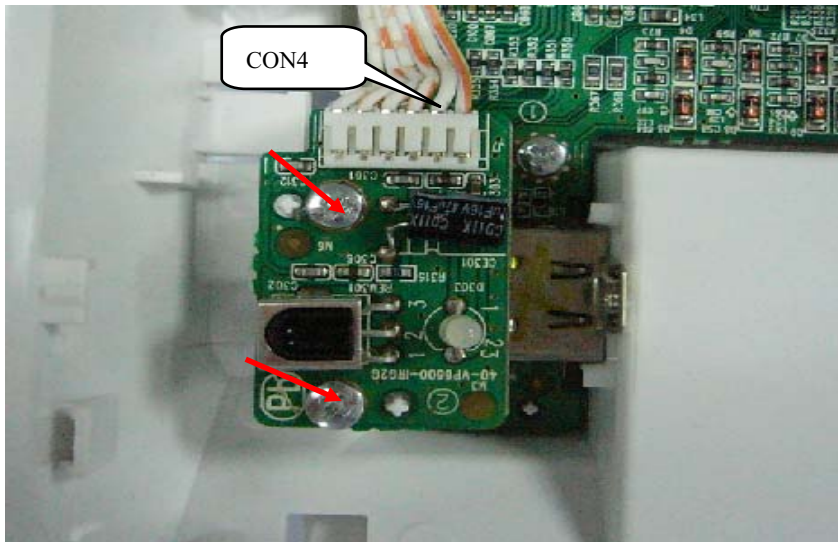

Figure 8
Step5: Dismantling Infra-red Board. Disconnect the 1 connector, then remove 2 screws around the Board. (Figure 8)